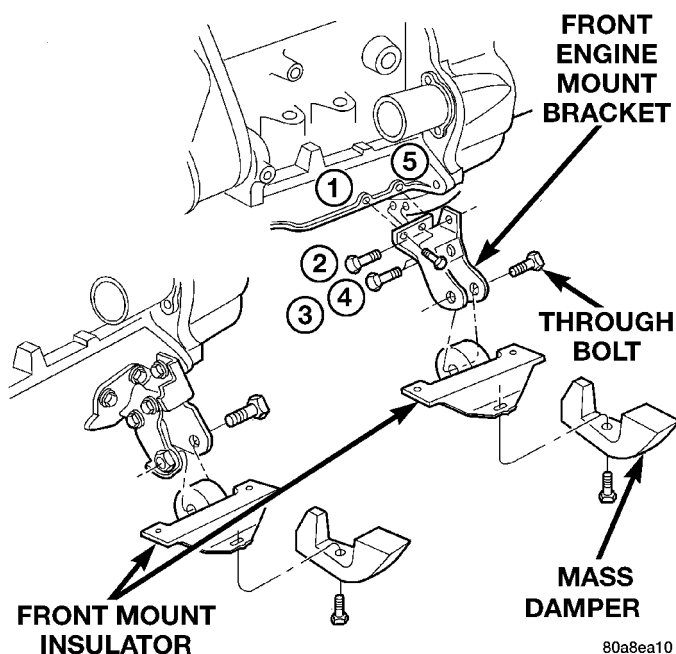

Fig. 14 Engine Mounting—Front
(1) Raise vehicle on hoist.
(2) Support the engine and transmission assembly with a floor jack so it will not rotate.
(3) Remove the front engine mount thru-bolt from the insulator and engine mount bracket (Fig. 14).
(4) Remove the mass damper. Remove the front mount nuts and remove insulator assembly.
(5) Remove the engine mount bracket, if necessary.
(6) Reverse removal procedure for installation and tighten fasteners in this order.
a. If engine mount bracket was removed, tighten bolt 1 to 3 N·m (20 in. lbs.) and bolts 2, 3 and 4 to 108 N·m (80 ft. lbs.) (Fig. 14).